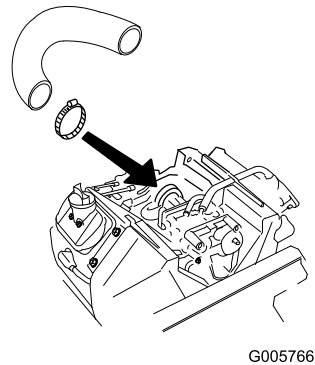

Figure 20
3. Remove the hose from the air cleaner and install it onto the air intake on the engine. This will make it easier to install the hose when the air cleaner is installed to the engine (Figure 20 and Figure 22).